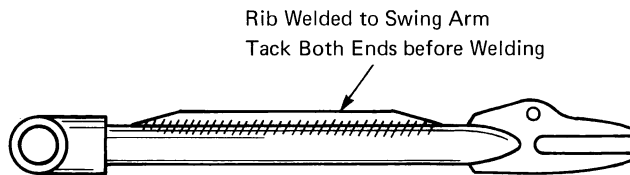

Fig. 4-22 Rib or stiffener
**Bends.** While a straightened bend in a frame or swing-arm tube can be reinforced by external sleeving, it can also be braced with a simple rib section welded on (Fig. 4-22).